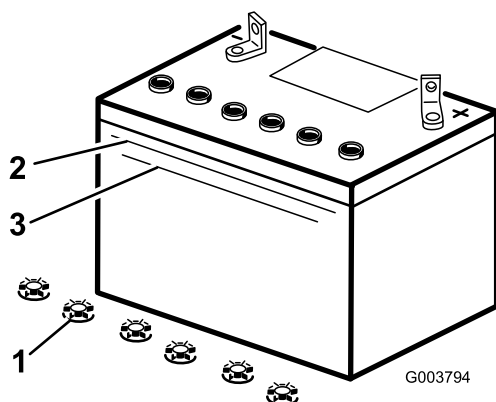

Figure 34
**Note:** The electrolyte must be up to the Upper line (Figure 34). Do not allow the electrolyte to fall below the Lower line (Figure 34).
3. Remove the filler caps from the battery (Figure 34).
4. Slowly pour distilled water into each battery cell until the electrolyte level is up to the Upper line (Figure 34) on the battery case.
**Note:** Add distilled water, if necessary, until the electrolyte level is up to the Upper line (Figure 34) on the battery case.